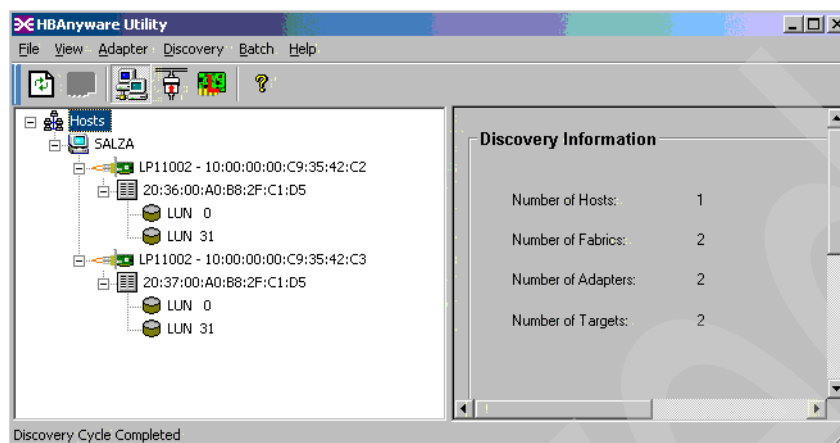

Figure 24-38 HBAnyware
- After rebooting, start HBAnyware by selecting **Start → All Programs → Emulex → HBAnyware**. Figure 24-38 shows the opening window. The left pane shows the hosts with the Emulex HBAs that were discovered. The application allows you to monitor both the local and other hosts, but we will only cover local monitoring.
Expand your host to see all the HBA ports of the host. Expand the HBA port to show the WWNs of all the connected targets. In our sample configuration, one HBA port is only able to see one DS3400 controller port. Figure 24-38 shows that the HBA port with a WWN ending in *C2* can see a target with the WWN 20:36:00:A0:B8:2F:C1:D5. This is the WWN of the used port on the DS3400 used in the sample configuration. By expanding this port, you also see the LUNs, which the HBA can access over this path.